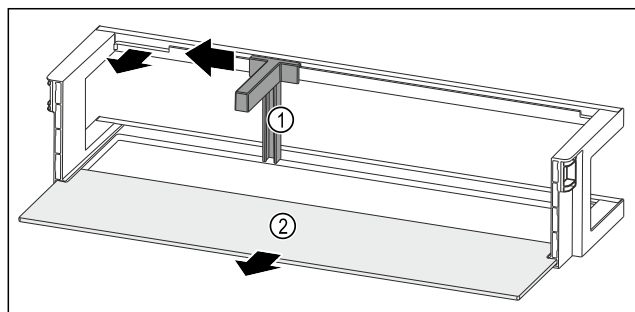

Fig. 116 Door rack with bottle holder and shelf
- ▶ Slide the bottle holder Fig. 116 (1) to the side as far as the recess.
- ▶ Remove the bottle holder Fig. 116 (1).
- ▶ Remove the shelf Fig. 116 (2).